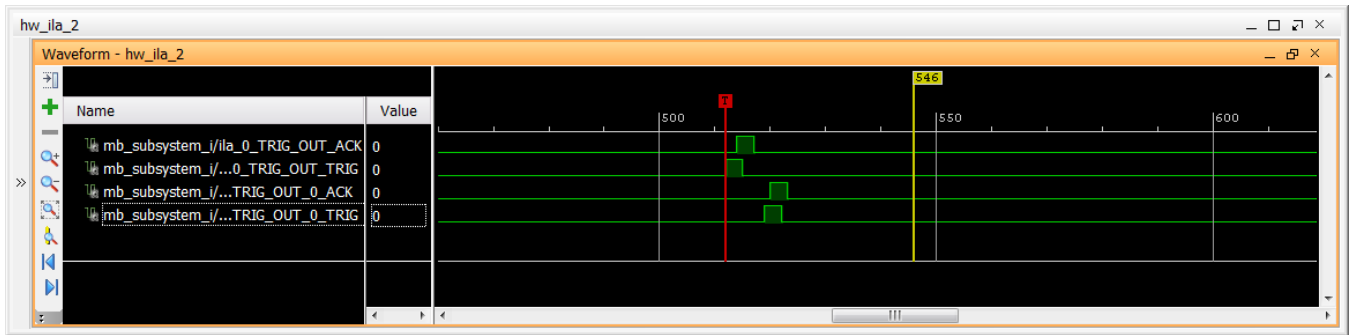

Figure 164: Waveform Demonstrating PS to PL Trigger
9. Select the hw\_ila\_1 tab again and click the **Run Trigger Immediate** button . This triggers the hw\_ila\_2 and the waveform window looks like Figure 164.